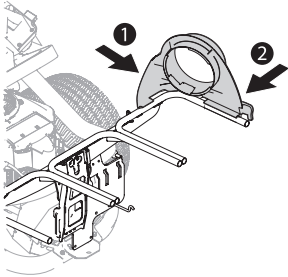

Figure 12
2. Snap the upper chute support (731-17272) in place by first clipping the side portion onto the hanger assembly rail (1) as shown in Figure 12.
3. Snap the front side of the upper chute support to the hanger assembly rail (2) as shown in Figure 12.